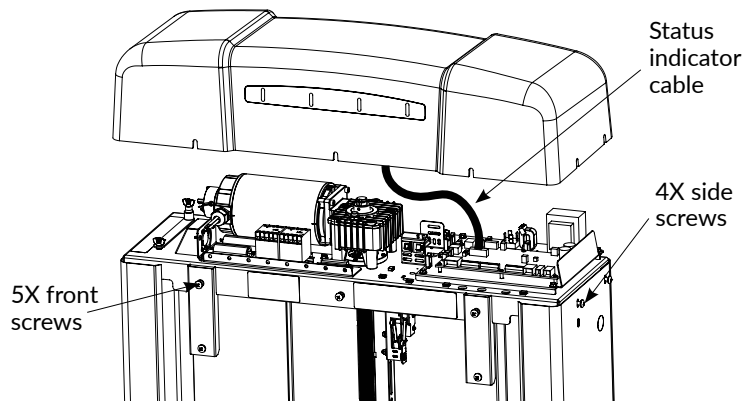

Figure 3-3
2. Loosen seven (7) screws around the perimeter of the top cap with a Phillips head screwdriver.
3. Lift the top cap partially and disconnect the cable between the top cap at the control board. Set the top cap aside. *See Figure 3-3.*